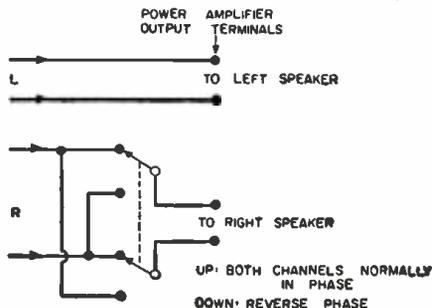
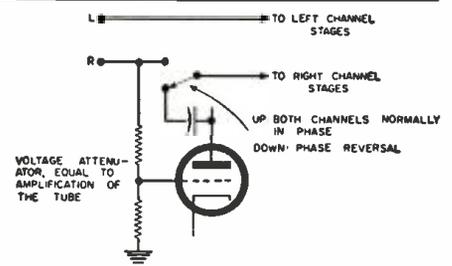

Fig. 13. Phase-reversal switching setup.
Fig. 14. Electronic phase reversal.
5. *Phase Reversal:* This permits the phase of one channel to be reversed 180 degrees. If the stereo amplifier is an integrated unit, containing power amplifiers, this can be accomplished by simply reversing the leads to one set of speaker terminals, as shown in Fig. 13. If the unit is solely a control amplifier, phase reversal must be accomplished electronically, as shown in Fig. 14, by an extra tube stage. The unwanted amplification is offset by a voltage attenuator, either a voltage divider at the grid, as shown in Fig. 14, or a feedback circuit from plate to grid.